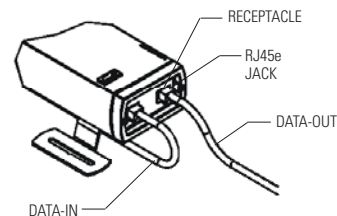

FIG.16
2. For daisy chain data connection, connect data cable cat into data-in socket of the first luminaire, then connect the data cable to the data-out connector jack of the next luminaire and so on. (Fig.16)